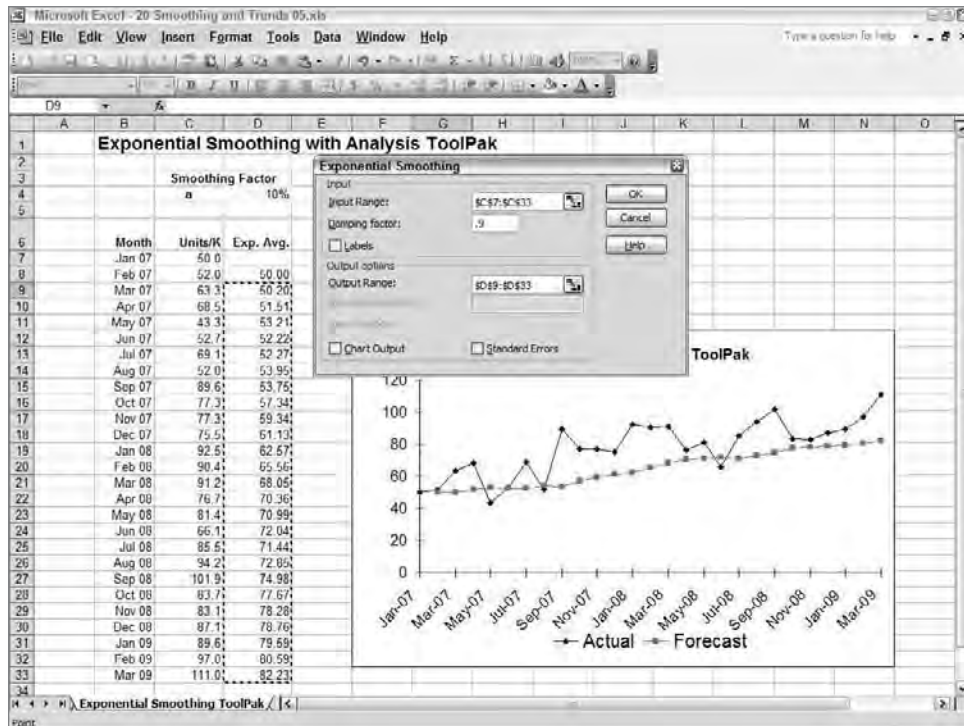

Figure 22.5: The Exponential Smoothing tool produces the same result as the manual process, but it gives you guidance.
- In the Data Analysis dialog box, select Exponential Smoothing and choose OK. Excel displays the Exponential Smoothing dialog box, as shown in Figure 22.5.
CAUTION In mathematics, the term α is referred to as the smoothing factor. It is normally in the range of .01 to .3. However, Excel's Exponential Smoothing dialog box asks for a Damping Factor as shown in Figure 22.5. The damping factor is one minus the smoothing factor, $(1 - \alpha)$, so it ranges from .99 to .7.